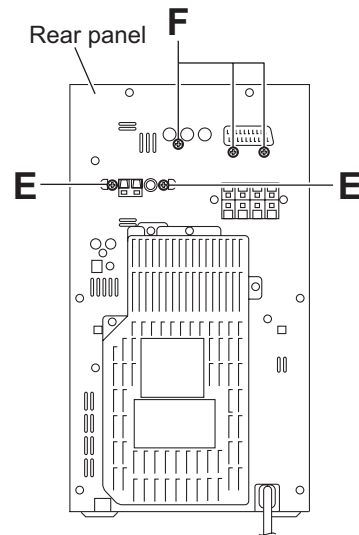

Fig.9
- (2) From the back side of the main body, remove the two screws **E** attaching the tuner to the rear panel. (See Fig.9.)
- (2) From the back side of the main body, remove the three screws **F** attaching the video board to the rear panel. (See Fig.9.)